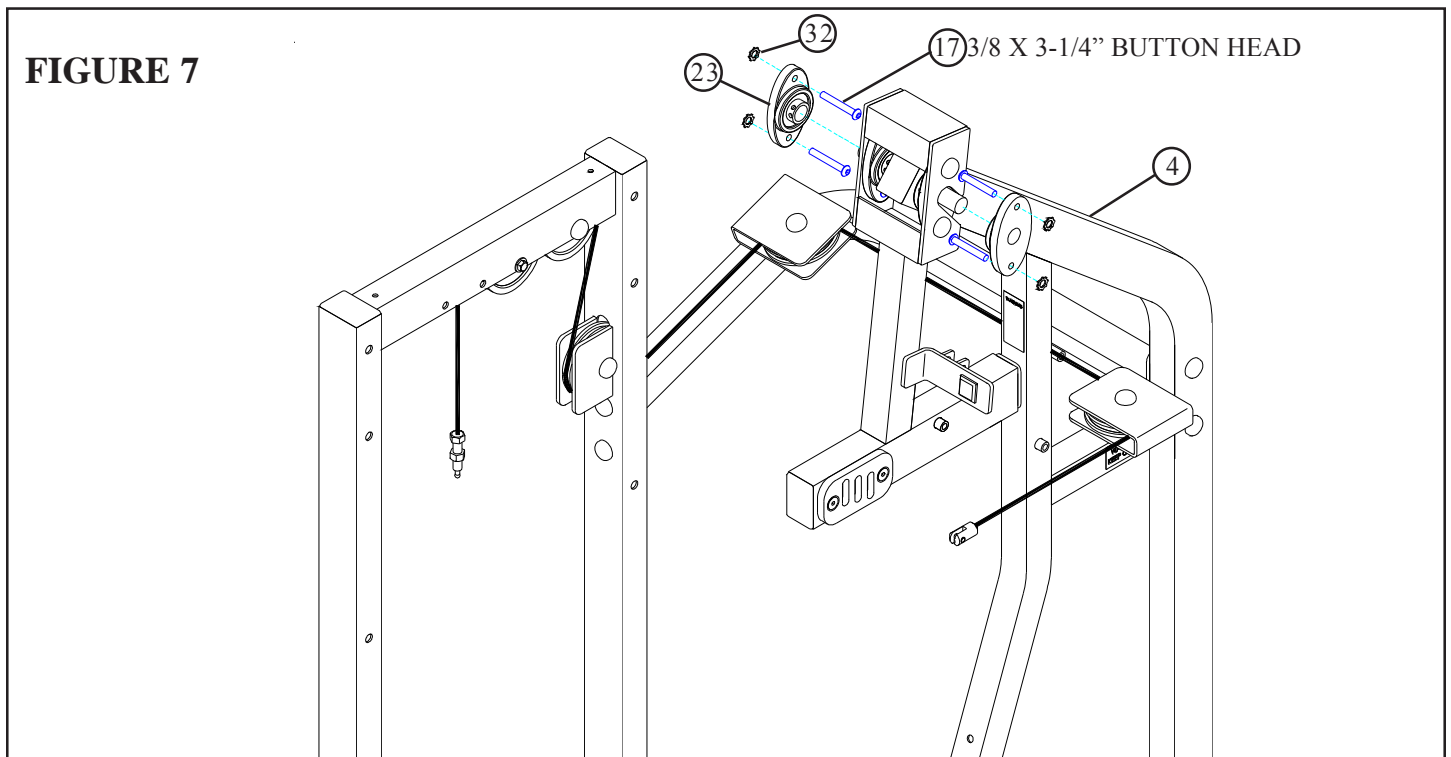

**FIGURE 6**
- **SECURELY** assemble the PILLOW BLOCKS (23) to the ARM ADJUSTMENT (3) using four previously inserted 3/8 X 1-1/4" BUTTON HEAD CAP SCREWS (18), four previously inserted STARLOCK WASHERS (32), four 3/8" SAE WASHERS (21), four RH WASHERS (22), four 3/8" LOW HEIGHT LOCK NUTS (19) and four RH CAPS (39) as shown in FIGURE 6
- **IMPORTANT!** When ARM ADJUSTMENT (3) is centered and level in the PILLOW BLOCKS (23), tighten the PILLOW BLOCK set screws.